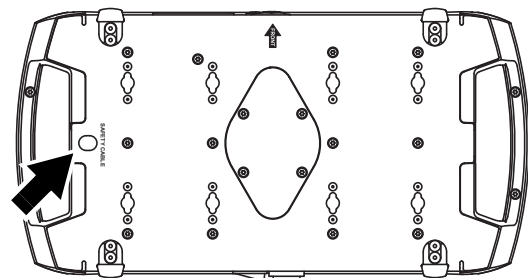

Figure 7: Safety cable attachment point
5. See Figure 7. Install a safety cable that is approved as a safety attachment for the weight of the fixture by looping it through the safety attachment point (arrowed) in the bottom of the base and around a secure anchoring point so that the safety cable will catch the fixture if a primary attachment fails. Remove as much slack as possible from the safety cable (by looping it twice around the anchoring point, for example).